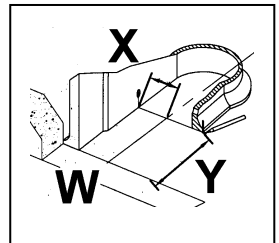

Fig 4
5) To work out the length that the DWV pipe needs to be, first confirm that the ceramic spigot on the pan you have is the same distance from the back of the pan to the start of the ceramic spigot as per detail (I) in the dimension table. Calculate the amount the pan spigot will go into the pan collar you have selected to use, (not supplied with the toilet) and allow a small clearance appropriate to the pan collar selected off dimension (I)
6) Mark a line through the centre of the waste pipe on the floor (See 'W' fig 4). Position the pan on the floor. Mark points of fixing holes on floor (See 'Y' fig 6). Remove pan and identify measurement from centre of waste outlet on the toilet suite to the inner edge and mark on floor (See 'X' fig 4).